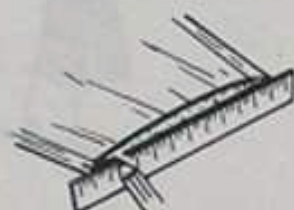

Fig. 12
15. If you have not already drawn a centerline on the tip airfoil, do so now. Take a piece of soft balsa, $3/4"$ x $2"$ x $10"$ and also draw a centerline on it. See figure 12. Match centerlines and glue tip block in place as in figure 13. Glue fixed portion of outer trailing edge in place, lining up on tip block centerline. (Figure 14). Sand wingtip block to shape, being careful to taper into centerline (figure 15). Use full scale outline on template drawing to determine wingtip plan shape.